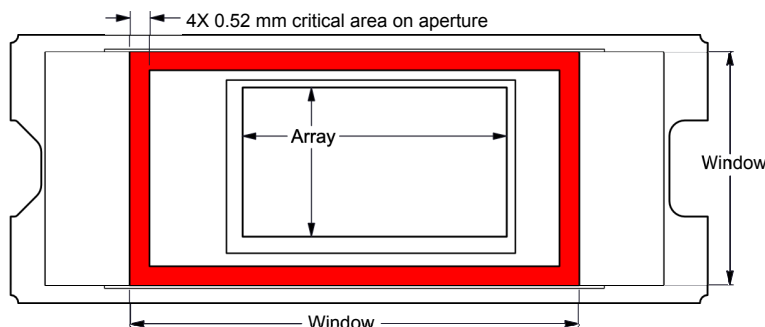

图 6-1. Illumination Overfill Diagram - Critical Area
- (16) The average over time (including storage and operating) that the device is not in the elevated dew point temperature range.
- (17) Exposure to dew point temperatures in the elevated range during storage and operation should be limited to less than a total cumulative time of CTELR.
- (18) The maximum marginal ray angle of the incoming illumination light at any point in the micromirror array, including Pond of Micromirrors (POM), should not exceed 55 degrees from the normal to the device array plane. The device window aperture has not necessarily been designed to allow incoming light at higher maximum angles to pass to the micromirrors, and the device performance has not been tested nor qualified at angles exceeding this. Illumination light exceeding this angle outside the micromirror array (including POM) will contribute to thermal limitations described in this document, and may negatively affect lifetime.
- (19) The active area of the device is surrounded by an aperture on the inside of the DMD window surface that masks structures of the DMD device assembly from normal view. The window aperture is sized to anticipate several optical operating conditions. Overfill light directly illuminating the window aperture can create adverse imaging effects, and additional device heating leading to reduced device lifetime. Direct incident illumination should be prevented from striking the DMD window aperture.
- (20) Applies to the region in red in Figure 6-1, at the inside plane of the glass window where the physical aperture is located.